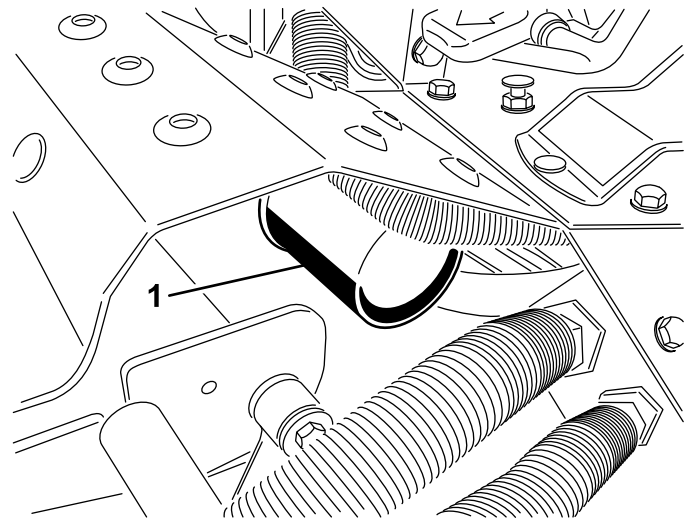

Figure 61
3. Clean the area around the hydraulic oil filter (Figure 61). Remove the filter from the bottom of the filter housing and allow the oil to flow into a drain pan. Use a bottom type filter wrench. Dispose of the oil filter properly.